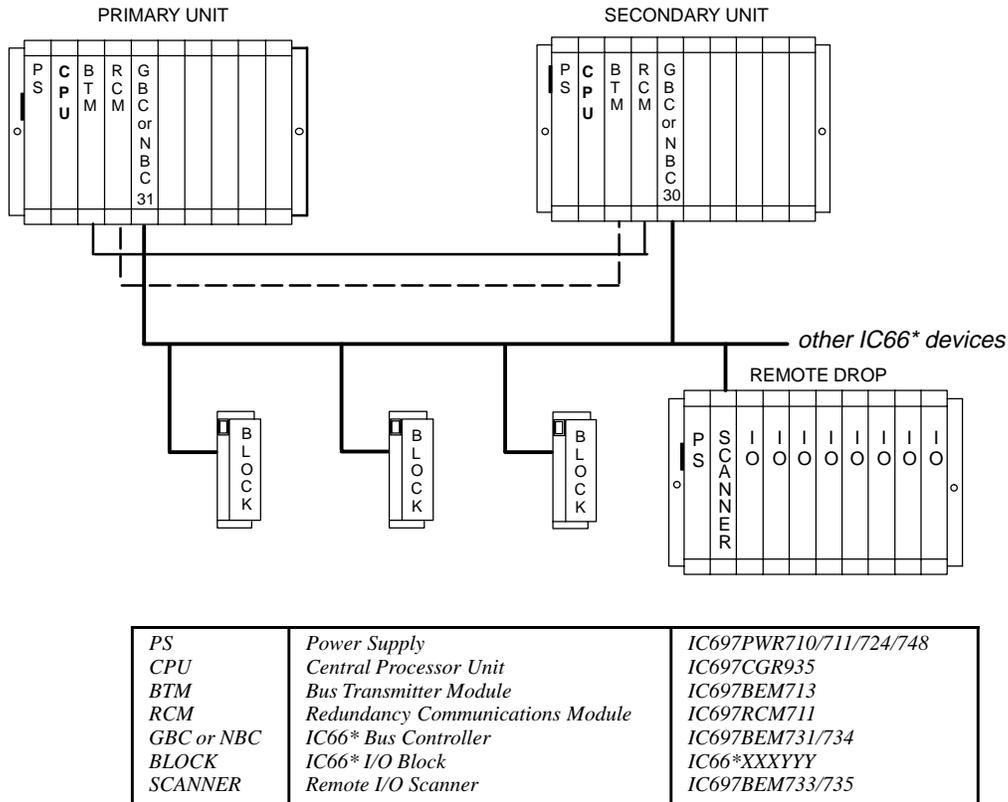

Figure 1. Typical Hot Standby CPU Redundancy System Configuration
The CGR935 is used as the controller in a CPU Redundancy system. Two redundancy control methods can be configured using the CGR 935. The GHS method (IC660/661 Hot Standby) uses multiple single bus IC660/661 I/O networks with one redundant controller in each synchronized PLC. The GDB method uses multiple I/O networks with either single or dual busses in each synchronized PLC with the capability of either unit being activated with bumpless switch. The location of the CGR935 modules in a typical Hot Standby CPU Redundancy system is shown in Figure 1.
- Install in slot 1 of rack 0. (See Figure 1)
- Turn on power. The module should power up and the top left (OK) LED should blink. When the diagnostics have completed successfully, the top left LED stays on and the second (RUN) and third (EN) LEDs are off. The fourth (bottom left) LED (MEM PROTECT) is off if the keyswitch is in the OFF position. The CPU is now ready to be programmed (if connected parallel, the CPU can be programmed regardless of key position). After the program has been verified, the toggle switch can be moved to the appropriate operation mode position; RUN WITH OUTPUTS ENABLED, RUN WITH OUTPUTS DISABLED, or STOP. The LEDs indicate the position of
The programmer connects to the top port on the Bus Transmitter Module (IC697BEM713) for a parallel interface (MS-DOS programmer only) as shown in Figure 1.